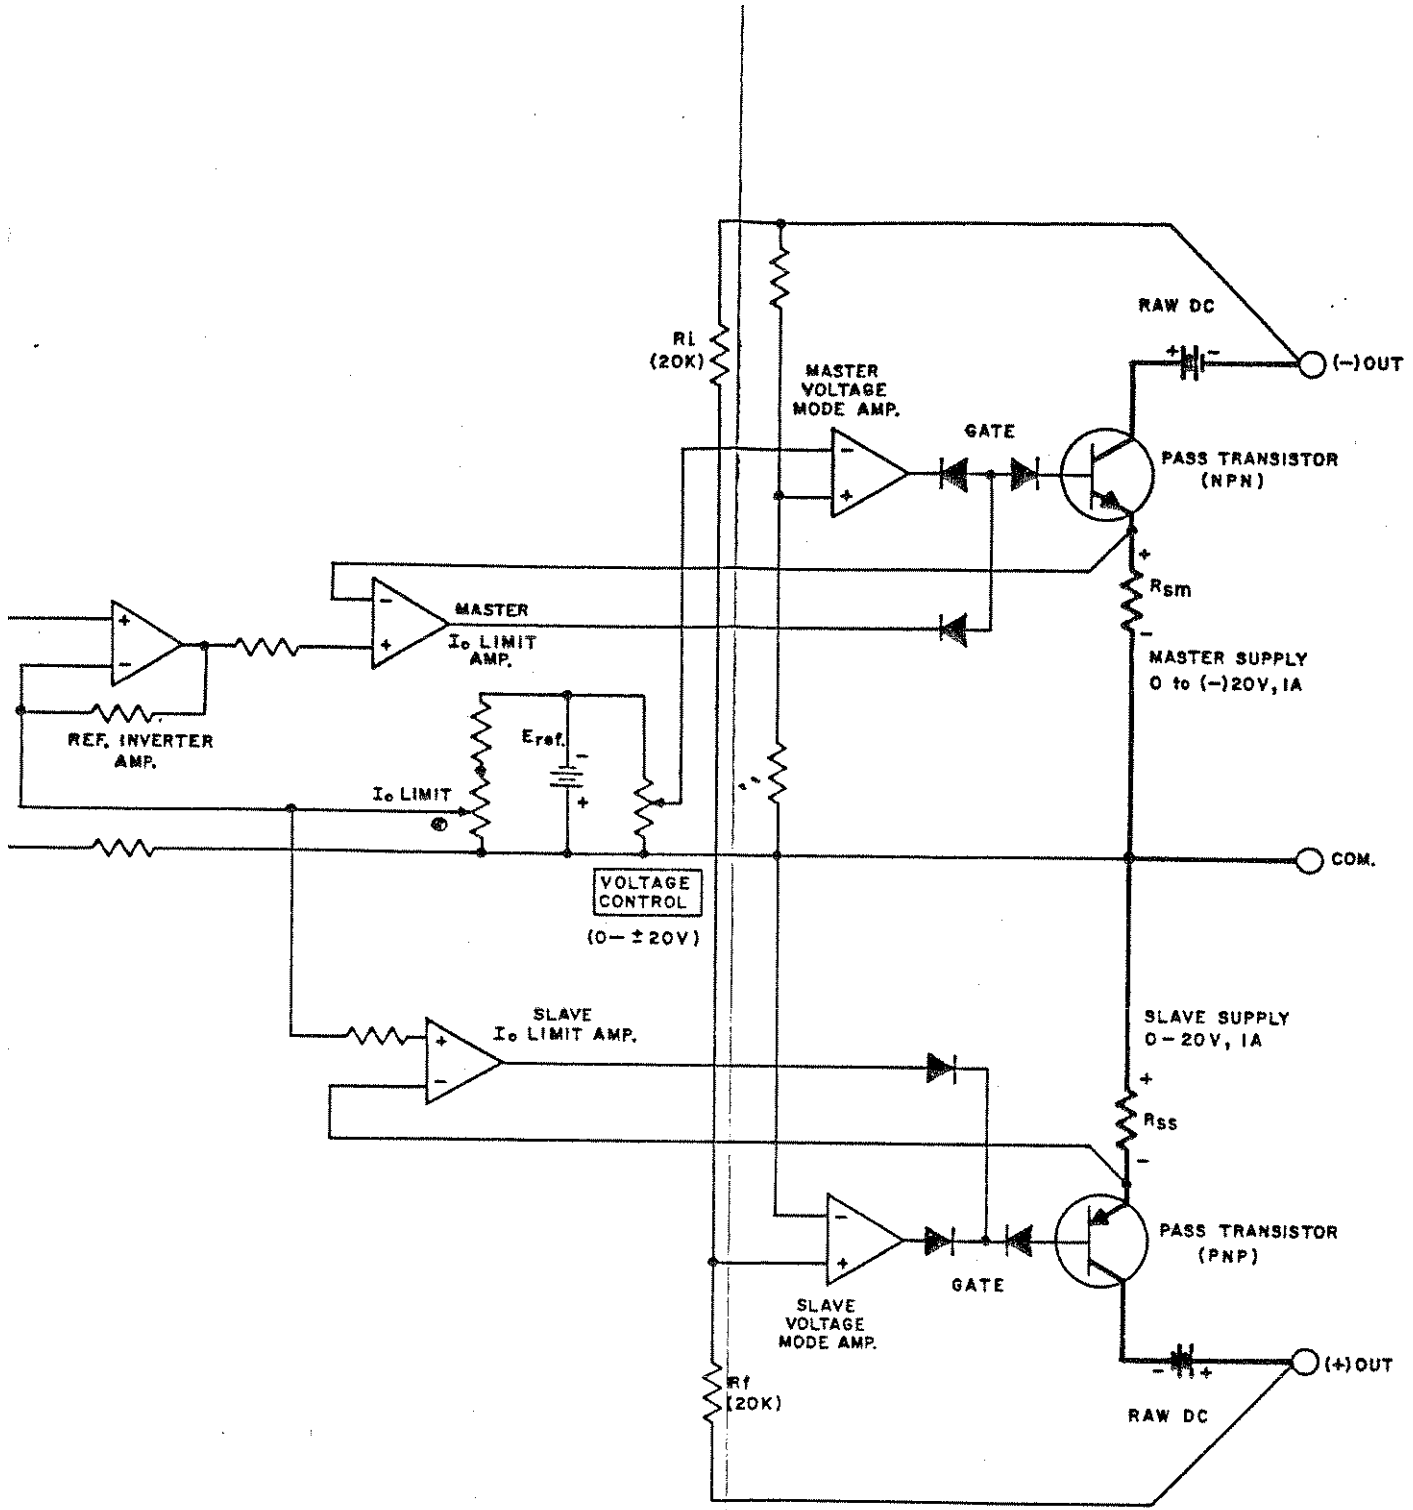

FIG. 4-3 SIMPLIFIED SCHEMATIC DIAGRAM, ±20V, 1A SUPPLY
- 4-6 ($\pm 20V$, 1A SUPPLY, SEE FIG. 4-3). This is a (\pm) 20V, 1A stabilized dual tracking power supply in a master/slave configuration, with variable current limit. As seen from FIG. 4-3, the RAW D-C sources of the MASTER and the SLAVE sections are connected in series with their respective NPN and PNP PASS TRANSISTORS, their sensing resistors (R_{sm} and R_{ss}) and the external load across the output terminals. The PASS TRANSISTORS change their collector/emitter potentials in response to either their associated VOLTAGE MODE AMPLIFIERS or their I_O LIMIT AMPLIFIERS.